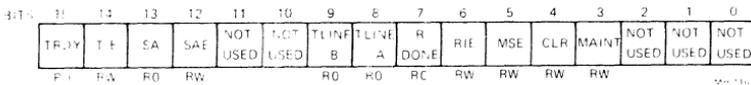

Figure 4 CSR Bit Assignments
**Control and Status Register** – The control and status register (CSR) is a byte and word addressable register. All bits in the CSR are cleared by an occurrence of BINIT or by setting device master clear (CSR 4). The format is shown in Figure 4 and the bit assignments are listed in Table 3.